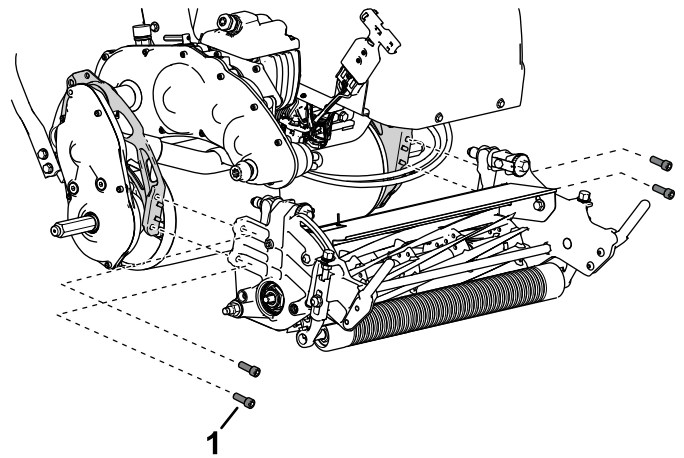

Figure 35
4. Remove the socket-head screws that secure the cutting unit to the frame (Figure 35).